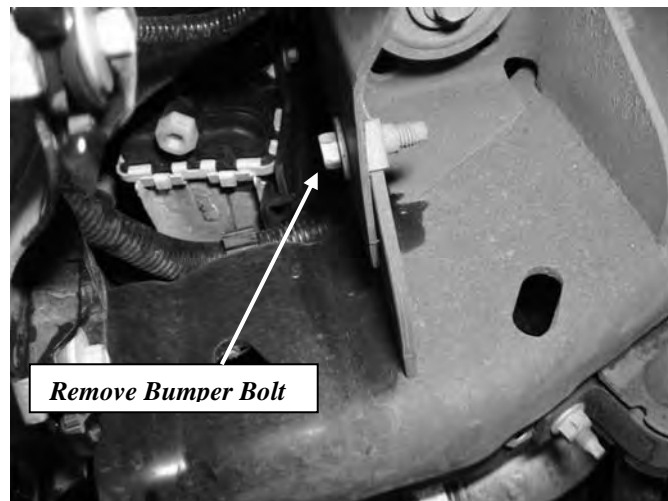

Figure 4 LH Bumper Bracket Bolt
6. Remove the bolts attaching the bumper end brackets to the frame. The brackets should be left in place on the bumper. See **Figure 4**